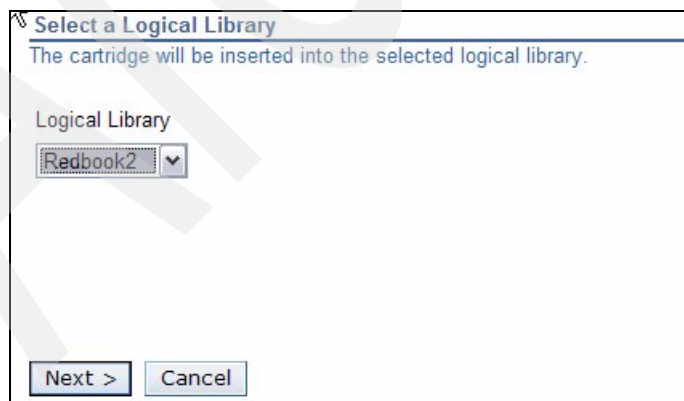

Figure 2-55 Assign cartridge to a logical library
2. Select the library to which you want to assign the cartridge(s) (see Figure 2-55). Click **Next** to complete the operation. The cartridge is then logically moved to the new library.